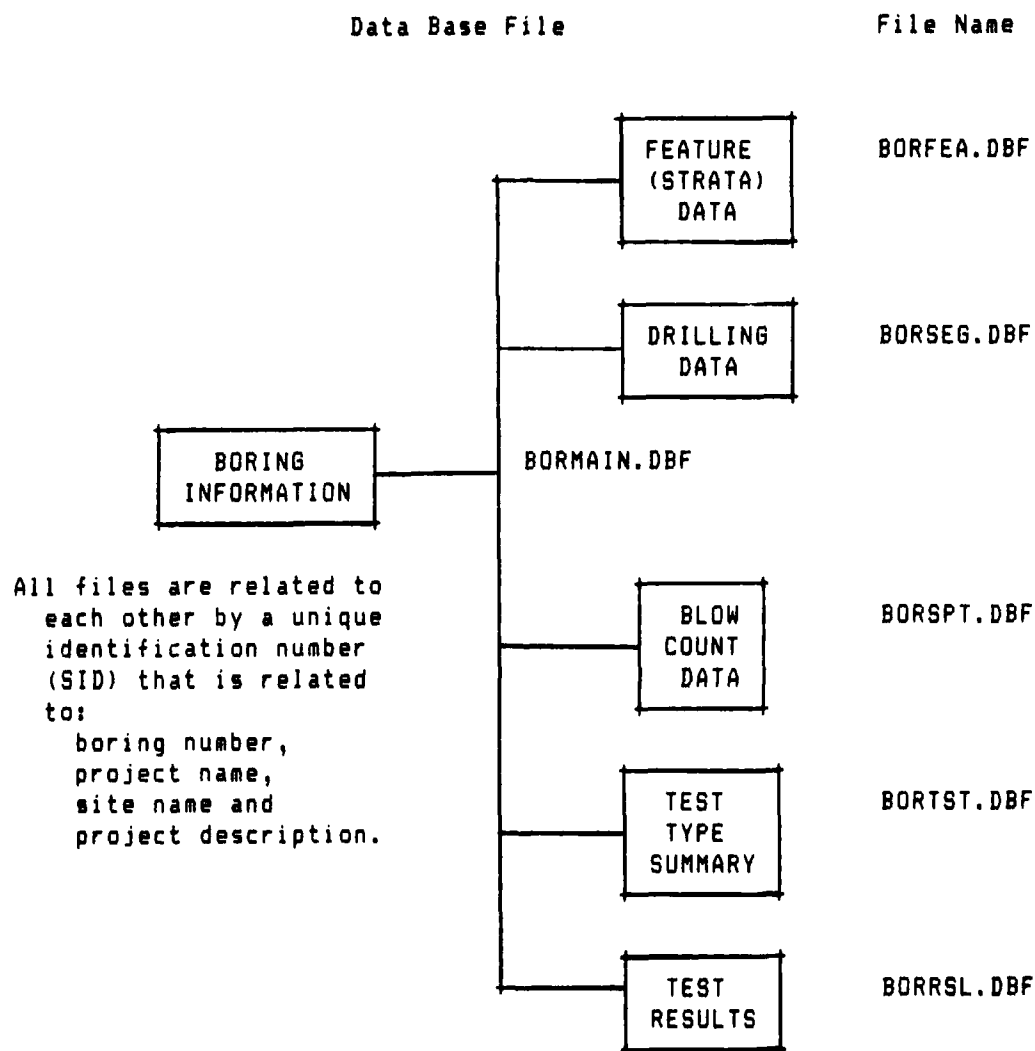

Figure 1. Diagram of data base files for BORDBM
8. A diagram of the files for BORDBM is shown in Figure 1. The type of data stored in each file is shown in Figure 2. General information for the boring is stored in the first file (BORMAIN.DBF) while specific data of the types shown in Figure 2 is stored in the other files. The data types are very similar to those shown in Table 1 of Instruction Report GL-84-1.* In both the time-sharing version and the micro version depths can be entered and converted to elevation when the top of hole elevation has been stored. However, in the time-sharing version, only elevations are stored; whereas, in the micro version both depths and elevations are stored.